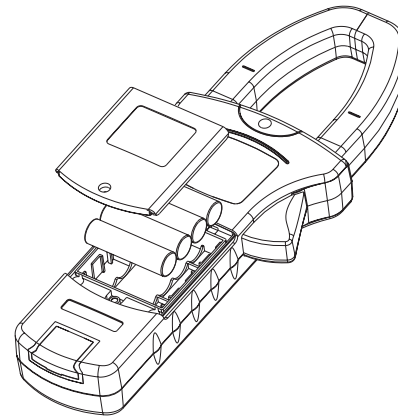

Figure 36
B. Replacing the Battery (see figure 36)